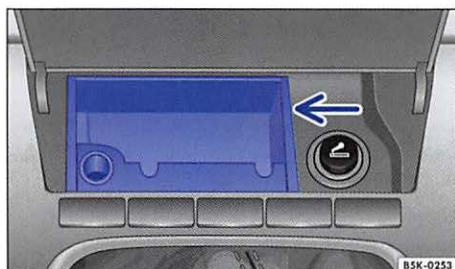

Fig. 114 In the front center console: Removing the ashtray.
- Pull the ashtray insert up and out using the handles on the side ⇒ **fig. 114** (arrow).